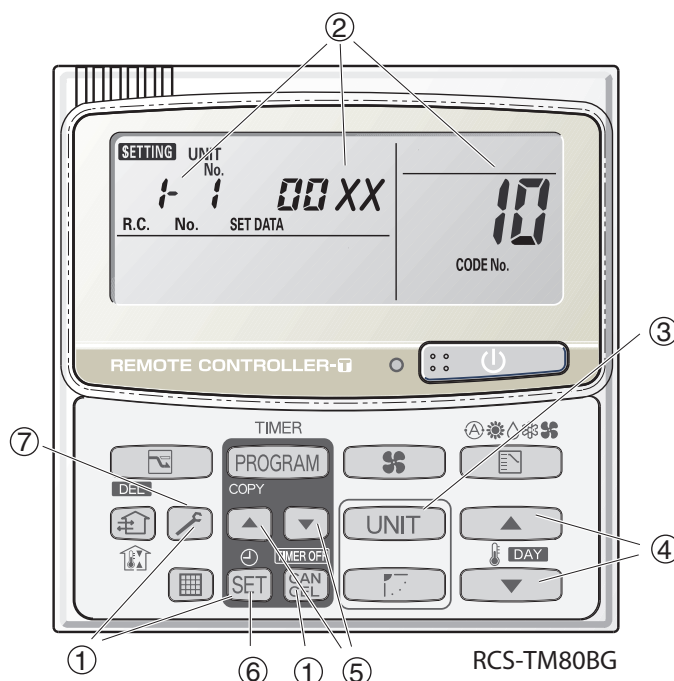

Fig. 2
- "SET DATA," unit No. "1 1" (or "ALL" in the case of group control), item code "10," and settings data "00 XX" are displayed blinking on the remote controller LCD display (Fig. 2).